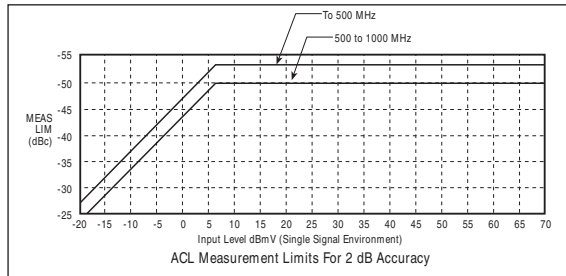

Figure 3.
**Range and Accuracy:** See Figure 3.